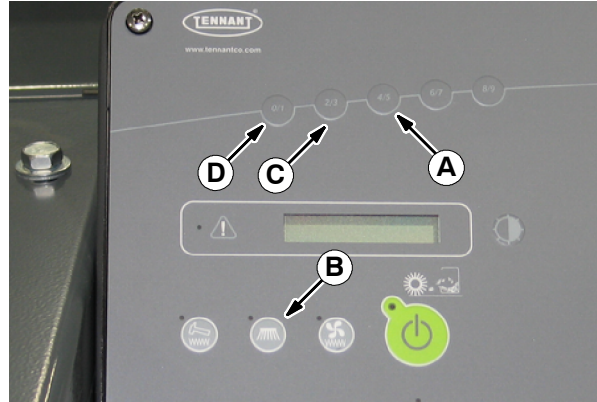

FIG. 3
4. To enter configuration mode: Simultaneously press and hold the 4/5 button (A) and Side Brush button (B) and turn the ignition switch to the on position (without starting machine). Hold both buttons for 5 seconds, and then release them. Refer to Fig. 3.
5. To select configuration: Use the 2/3 button (C) to scroll to the proper mode and then use the 0/1 (D) button to select the applicable mode. Refer to Fig. 3.